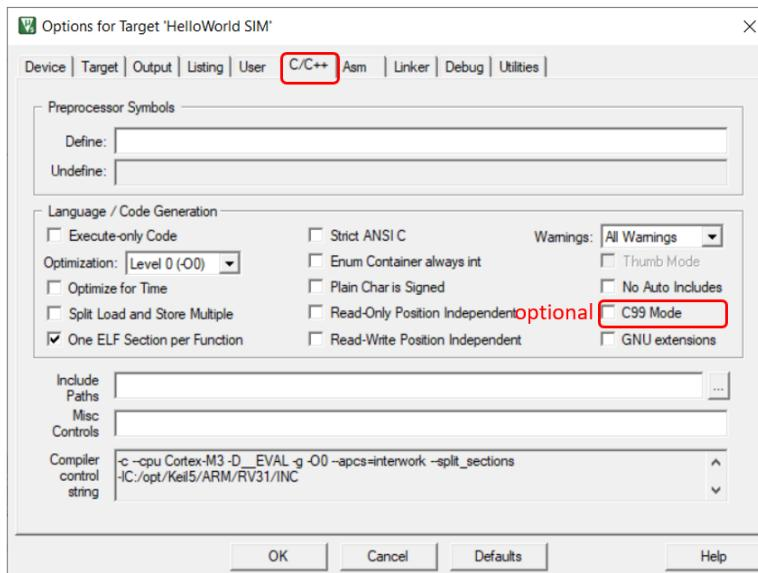

Figure 8.14: Keil IDE: Target Options C/C++ Tab Configuration
3. Configure the C/C++ tab as shown in Figure 8.14. We do not need c99 for this example. So we leave it unchecked.